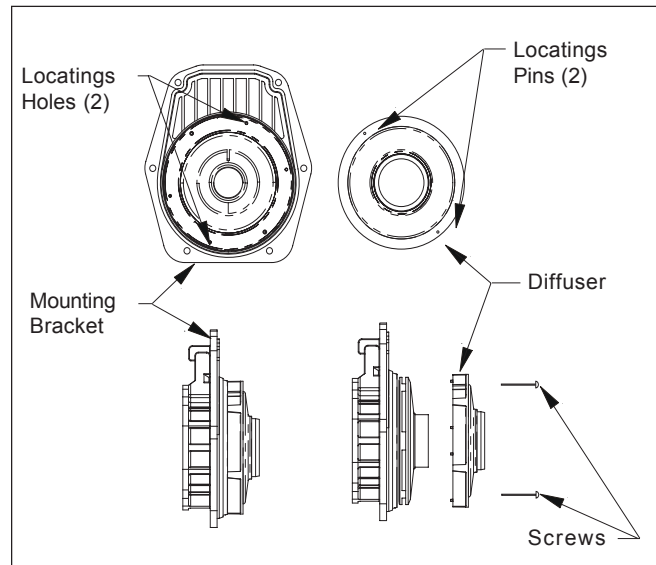
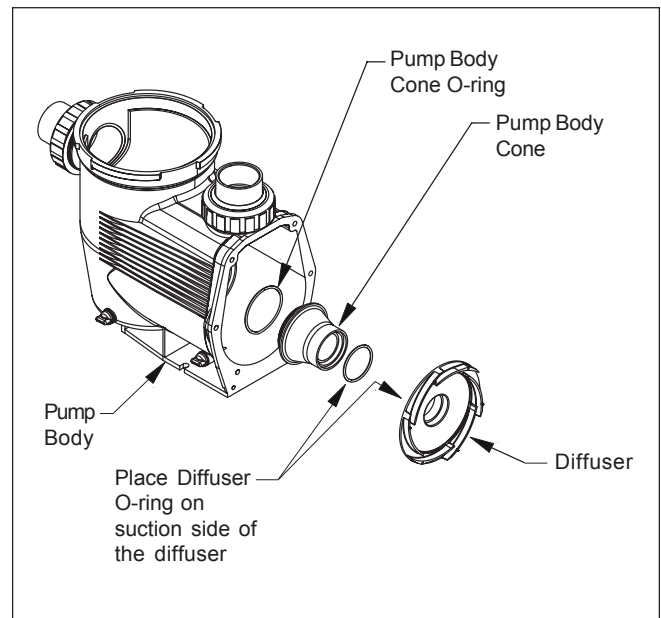

Figure 2. Removing the Diffuser
Figure 3. Diffuser O-ring
5. Using a No. 1 Phillips screwdriver, remove the two (2) screws holding the diffuser (the cover over the impeller) and remove the diffuser (See Fig. 2). Remove the diffuser o-ring. It may be stuck in the pump body cone (See Fig. 3).
5. There is an o-ring located between the diffuser and the pump body cone. Place the diffuser o-ring over the diffuser's suction side (See Fig. 3).
3. Remove the four (4) bolts holding the mounting bracket to the motor. Before removing the bracket, note the alignment of the mounting bracket to the motor (See Fig. 3).
5. Replace the four (4) bolts holding the mounting bracket to the motor.